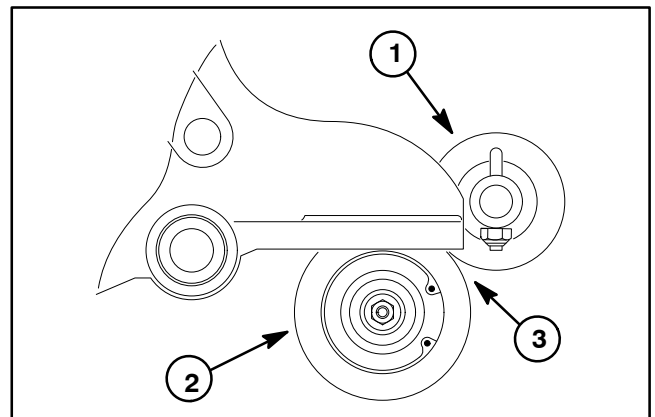

Figure 62
6. Check that brush is parallel to rear roller with 0.060" (1.5 mm) clearance to light contact with rear roller (Fig. 62). If contact is incorrect, brush operation will be adversely affected.
7. Install cover (item 20). There **should not** be a set screw installed in the bottom of the cover.
B. If driven pulley (item 12) was removed from roller brush shaft, apply antiseize lubricant to splines of pulley bore and slide pulley onto shaft. Install and tighten flange nut until pulley is seated onto shaft and then torque flange nut from **27 to 33 ft-lb (37 to 44 N-m)**. Use a ½ wrench on roller brush shaft flats to prevent shaft from rotating when tightening nut.
D. If driven pulley (item 12) was removed, check and adjust alignment of drive and driven pulleys (see Rear Roller Brush Drive System in this section).
4. Check that brush is parallel to rear roller with 0.060" (1.5 mm) clearance to light contact with rear roller (Fig. 62). If contact is incorrect, brush operation will be adversely affected.